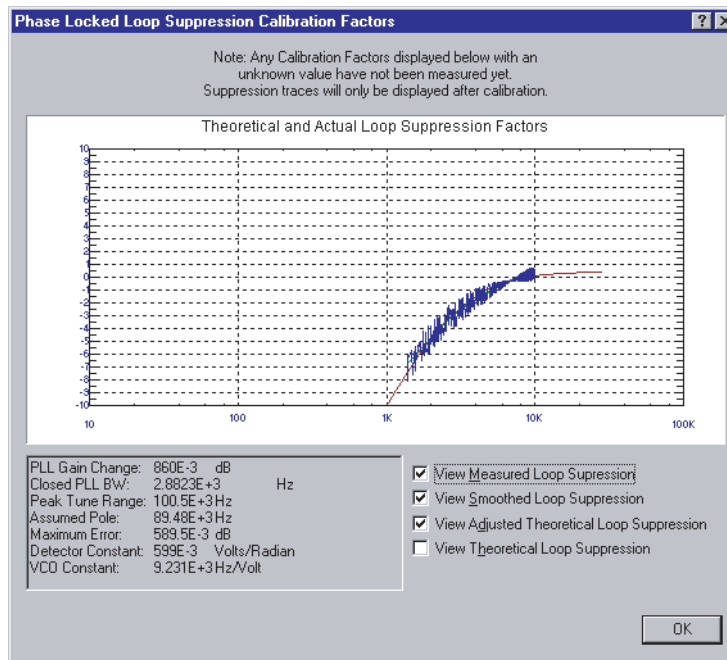

Figure 46 Selecting suppression
- 2 When the PLL Suppression Curve dialog box appears, check View Measured Loop Suppression, View Smoothed Loop Suppression, and View Adjusted Loop Suppression in the lower right of the dialog box. See Figure 46 on page 77.